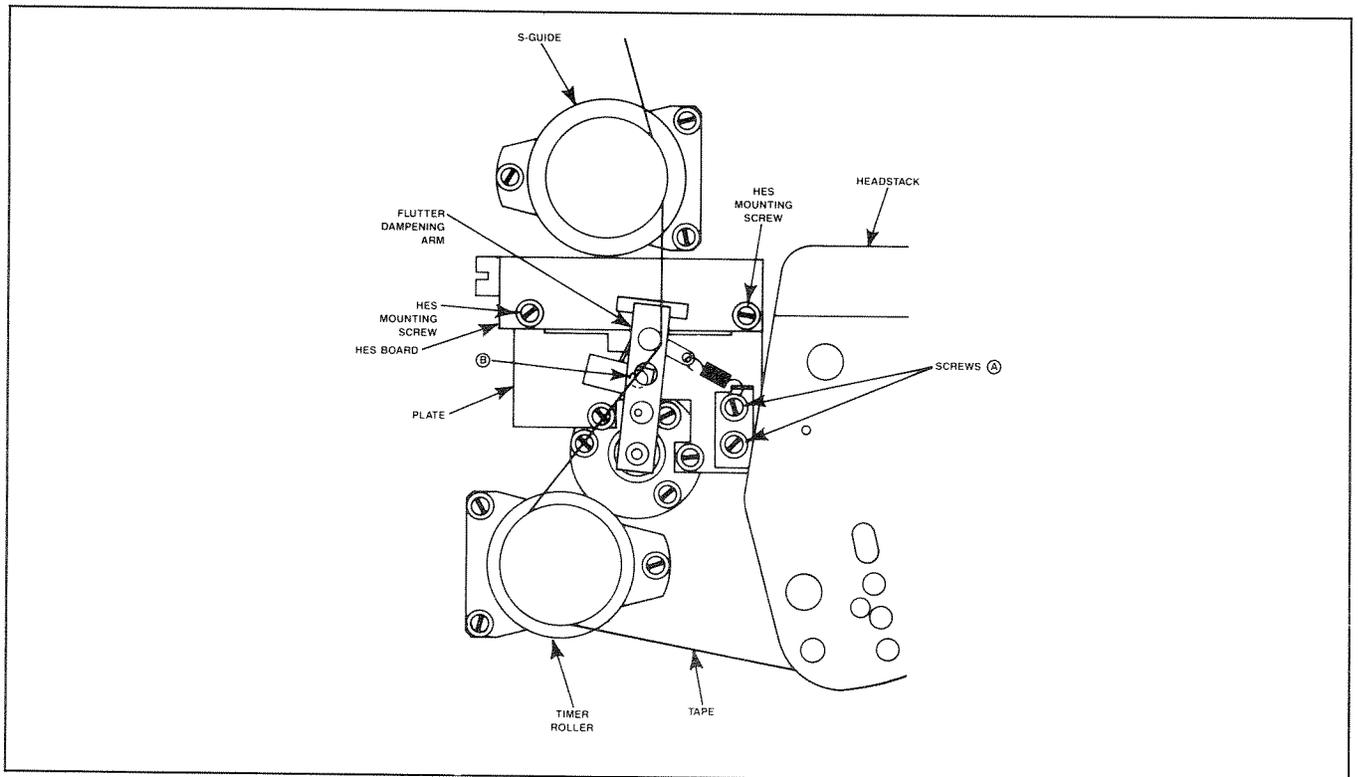

Figure 6-22. Flutter Dampening Arm Adjustment
- STEP 11** Loosen the screws labelled **(A)** and **(B)** in Figure 6-22.